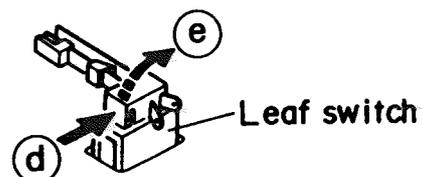

Fig. 2-37
■ **Leaf switch (Fig. 2-37)**
Press the leaf switch in the direction of the arrow ① and then remove it in the direction of the arrow ② referring to Fig. 2-37.